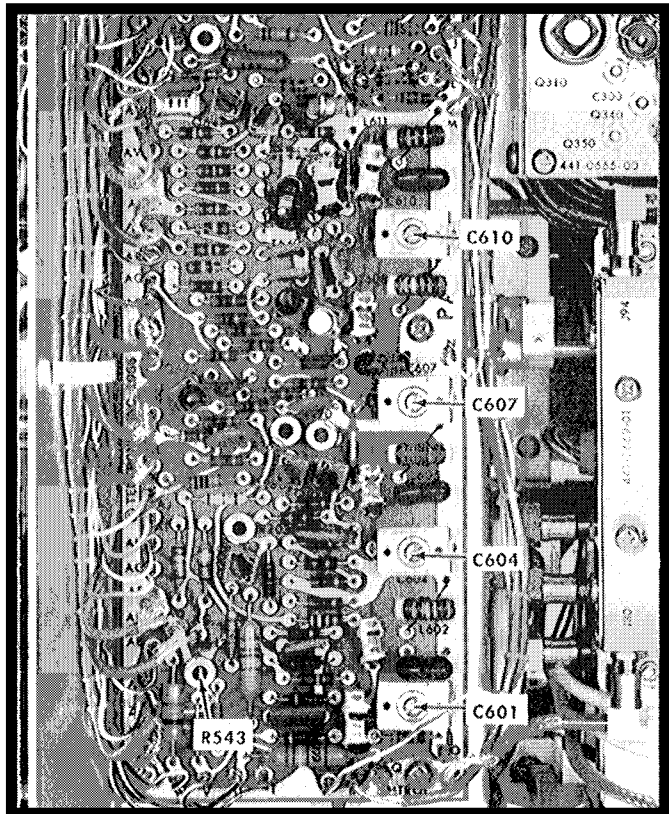

Fig. 6-28. Location of resolution filter adjustments and 100 kHz Resolution Cal R543.
h. Adjust 100 kHz Resol Cal R543 (Fig. 6-28) so the display begins to show evidence of over coupling (slight dip in the center). Bandpass response on the analyzer display should decrease to approximately 60 kHz at the —6 dB point when the RESOLUTION selector is turned counterclockwise one step from the fully clockwise position.
l. If the bandpass is less than 100 kHz in step k, adjust the 100 kHz Resolution Cal R543 (Fig. 6-28) to obtain a bandpass between 100 kHz and 120 kHz at the —6 dB point.